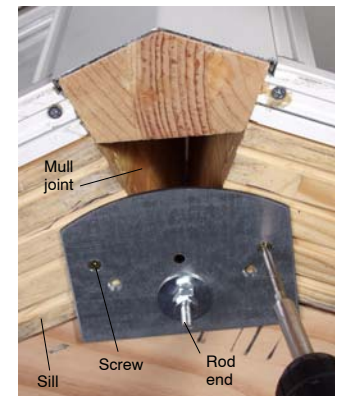

Figure 6
9. Pull out the rod end of the cable until there is 8"-12" of slack. Remove hex nuts and washer. Run the rod end of the cable through the hole nearest the flat edge of the installation plate and reinstall flat washer and hex nuts. Place the Ultimate Double Hung installation plate over the sill of the units. Fasten with 2 #7 x 7/8" screws through the outer holes. Repeat for each cable location. See figure 6.